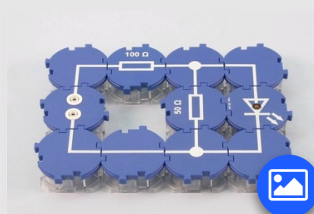
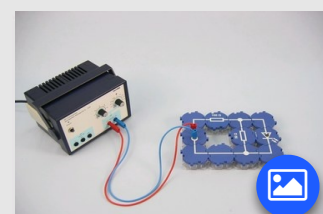

Fig. 3
Fig. 4
- Set up the experiment according to Fig. 3 and Fig. 4 and set the DC voltage to 6 V.